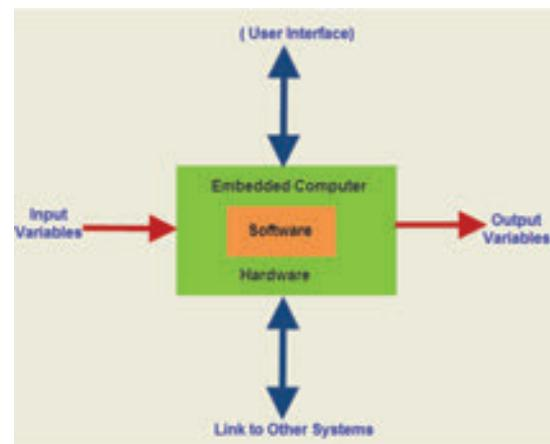

FIG 9.11 Component of Embedded System
1. It embeds hardware similar to a computer. The processors may be embedded processor cores. The hardware includes embedded memory, peripheral and input-output devices. It embeds main application software. The application software may perform concurrently multiple tasks. Figure 9.11 shows the units in the hardware of an embedded system.